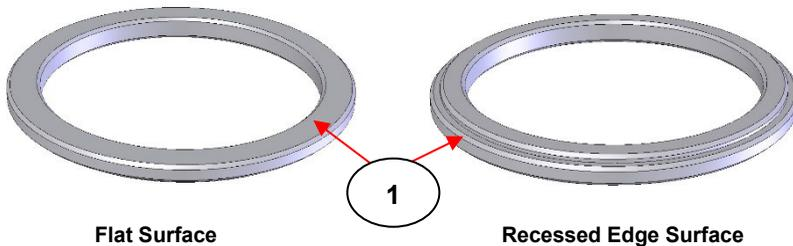

Fig 14. Spacer Ring Surfaces
The spacer rings (18) have two distinctive surfaces – a flat surface and a recessed edge surface. (See Fig 14.)